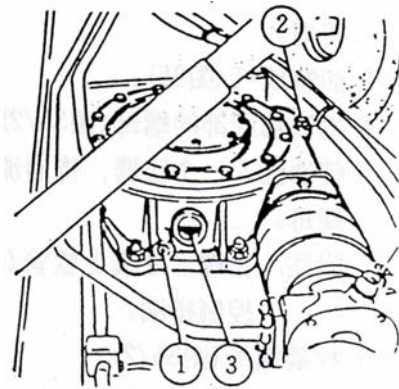

Fig. 34
1. In order to accelerate the drainage of oil, swing the grader blade. It is inclined towards the oil drain plug (Fig.34/1) and put the blade on the ground.
2. Remove the oil drain plug (Fig.34/1) and drain oil into a proper container. Remove the plug (Fig.8-3/1) for better draining of oil. Close draining plug only after oil has completely drained.
5. Readd new oil through the filler hole (Fig.34/2) until the oil reaches the middle of the oil level indicator.
2. Oil level (Highest oil level) must be at the middle of inspection hole (Fig. 34/3).
3. Add oil from oil filling hole (Fig. 34/2) if necessary.